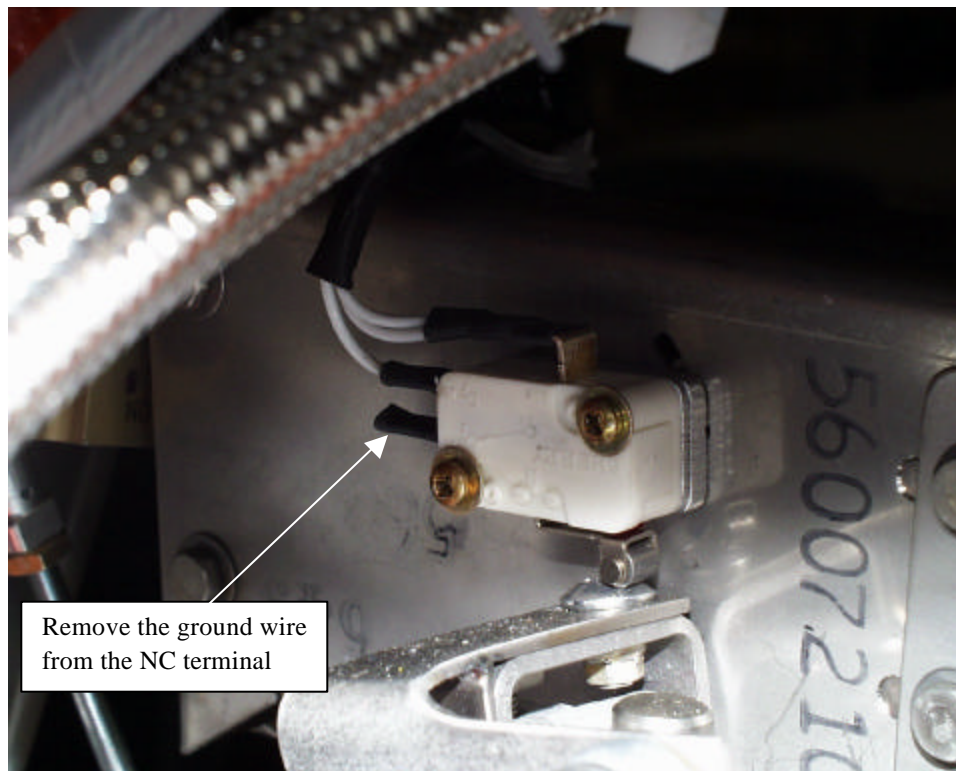

Figure 2. Condition Lever Switch
5. Refer to Drawing 560.12.009 for the electrical schematic. Remove the ground wire from the NC terminal of the condition lever switch located on the top aft right side of the engine and shown in Drawing 560.07.200 Sheet 6 and Figure 2. This ground wire is no longer needed.